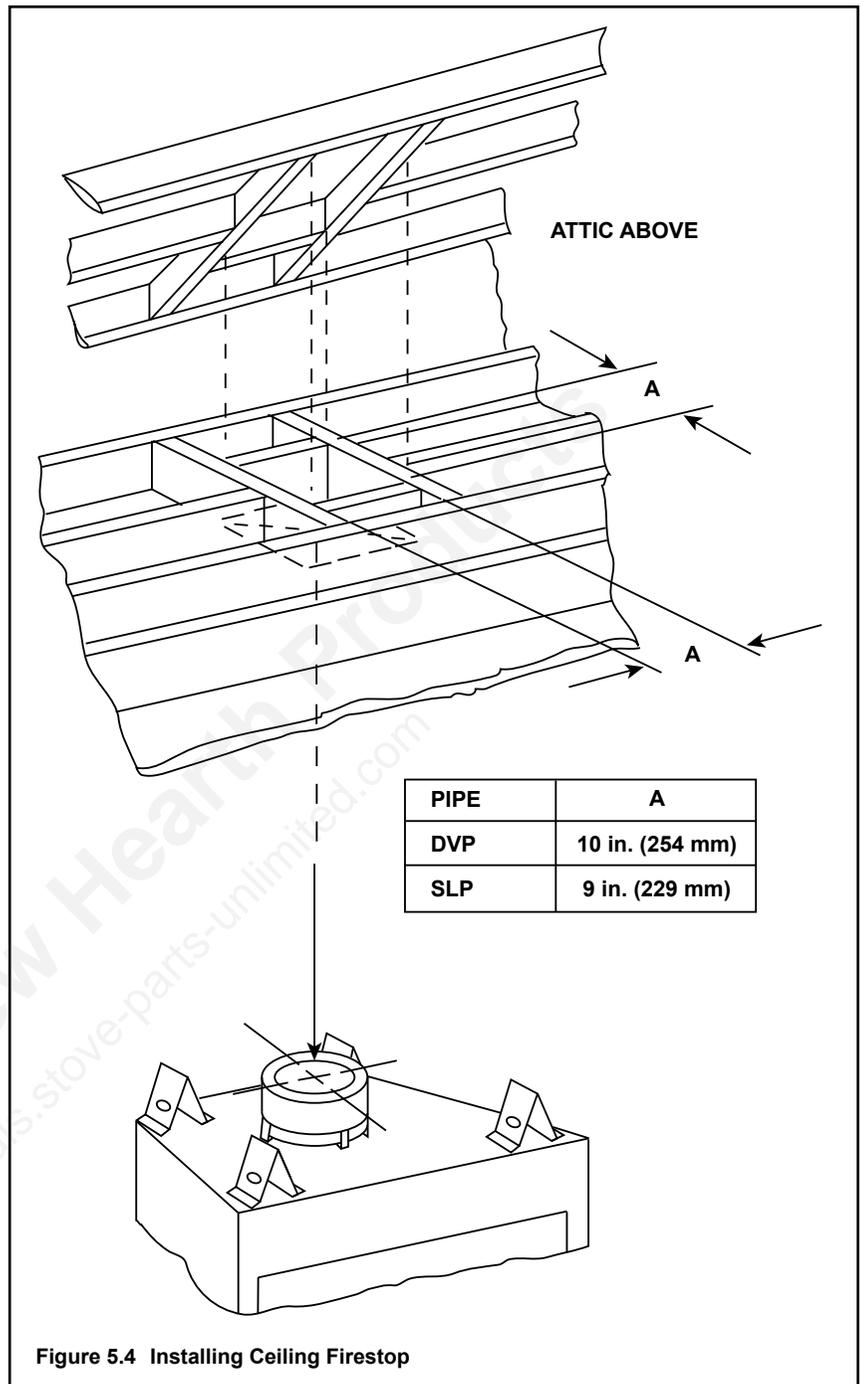

Figure 5.4 Installing Ceiling Firestop
- **DVP pipe only** - Frame an opening 10 in. by 10 in. (254 mm by 254 mm) whenever the vent penetrates a ceiling/floor. See Figure 5.4.
- **SLP pipe only** - Frame opening 9 in. x 9 in. (229 mm x 229 mm) whenever the vent penetrates a ceiling/floor. See Figure 5.4.